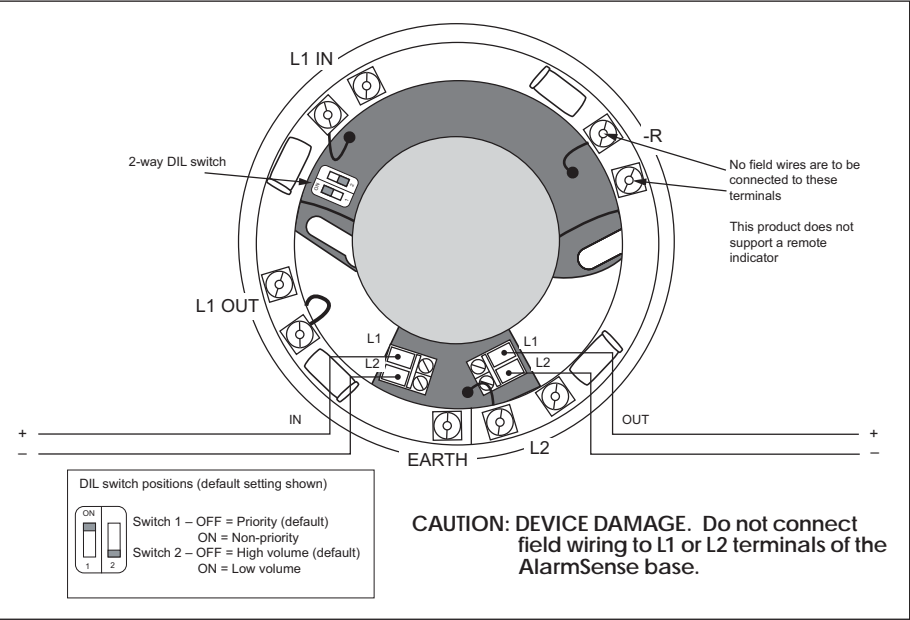

Fig 2a Combined Sounder/Sounder Visual Indicator Base
The AlarmSense Sounder Visual Indicator Base (Fig 2a), Part No. 45681-509, combines a sounder with a visual indicator and a detector base in one unit. The visual indicator is activated whenever the sounder is active and cannot be controlled separately.
- 3. The priority/non-priority feature and volume are set by means of the DIL switch, see Fig 2a & 2b.